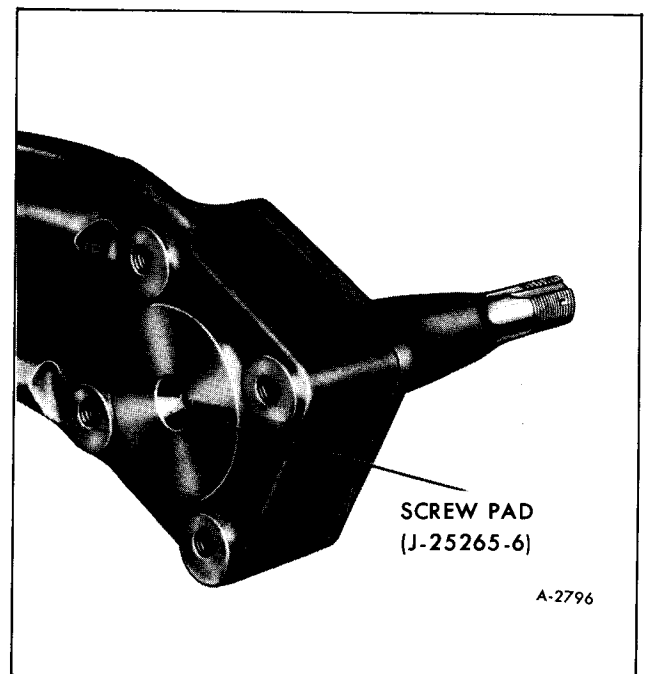

Figure 24—Special Tool J-25265-6
14. Apply penetrating oil to wheel spindle and suspension arm mating surfaces. Position screw pad J-25265-6 as shown in Figure 24.